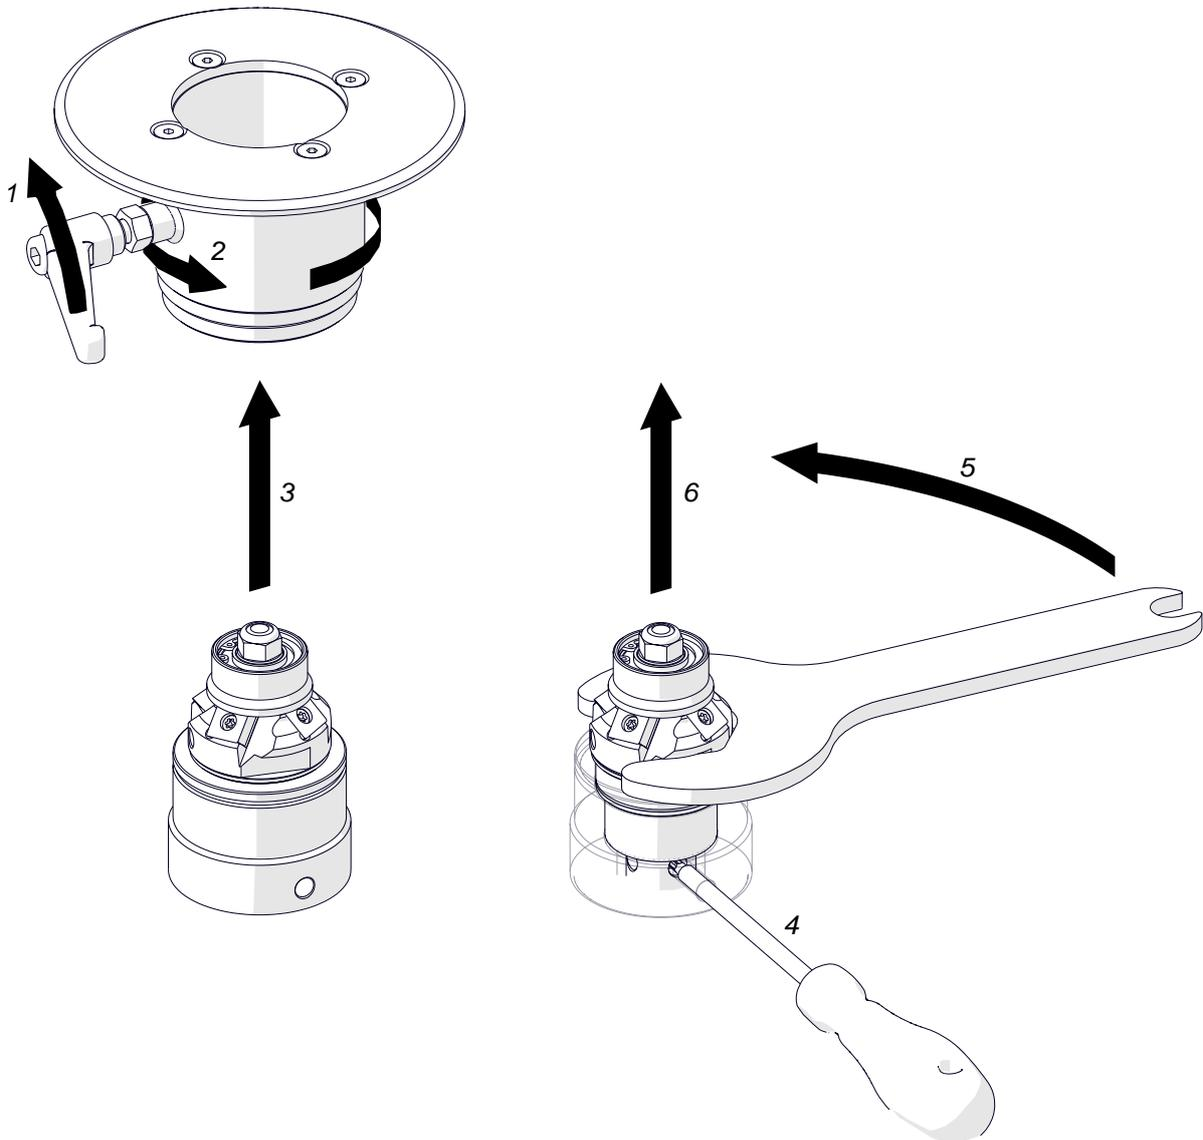

**Fig. 2.** Installing the cutting inserts
Unplug the machine from the power source, and place the machine upside down. Unlock the lever (1, Fig. 2), and then rotate the sleeve (2) to lower it as far as possible and access the milling head. Use the special wrench 3 to loosen the roller, and then use the screwdriver 4 to unscrew the inserts. Next, clean the sockets, push the inserts into the sockets, and then retighten the inserts and roller. The entire bottom of the insert must be in full contact with the socket (5).